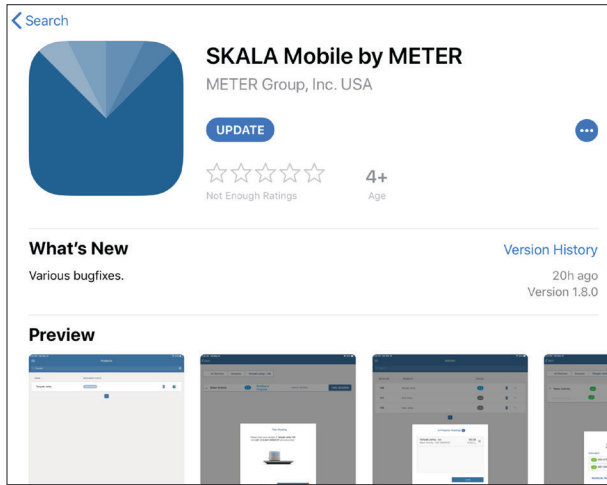

Figure 4 SKALA Mobile by METER screen
4. Download the SKALA Mobile by METER app (Figure 4).